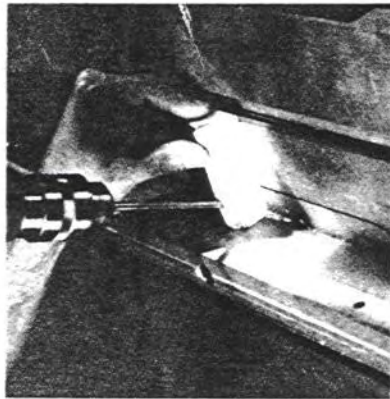

Fig. 2. With the table tilted 30°, secure the wheel strut in a V-block to drill the axle hole.
Make a V-block to hold round stock, and drill the 5/16"-diameter axle holes in the wheel struts (N) at 30° (see Fig. 2). After drilling the holes, glue the struts into the wheel strut block, using the axle to keep the struts aligned. When the glue dries, sand any excess strut sticking through the block. Glue and clamp the block to the fuselage.